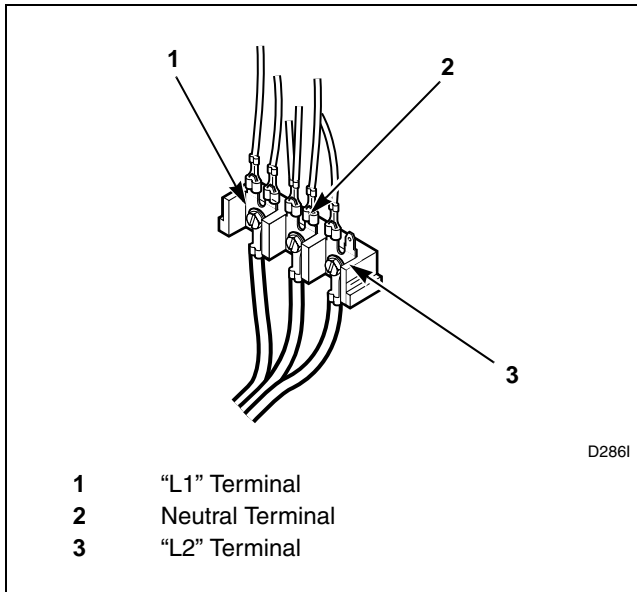

Figure 14
- Use the three screws from the accessories bag to attach the power cord wires to the terminal block. Refer to *Figure 14*.